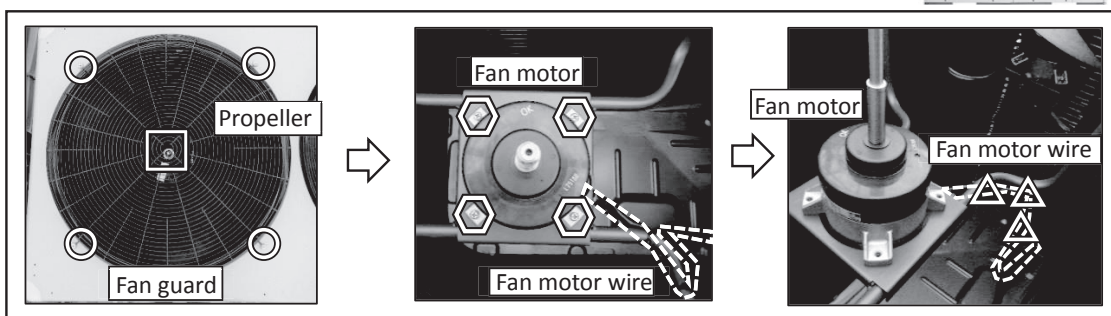

Fig.5 Remove fan motor
(3) Remove the fan motor. ※Work safely with a stepladder.
- (a) Remove 4 fan guard fixing screws and remove the fan guard. (○mark, Fig.5)
- (b) Remove propeller fan fixing nut and remove the propeller. (□mark, Fig.5)
- (c) Remove 4 fan motor fixing screws. (⊙mark, Fig.5)
- (d) Remove bands that hold wiring of the fan motor. (△mark, Fig.5)